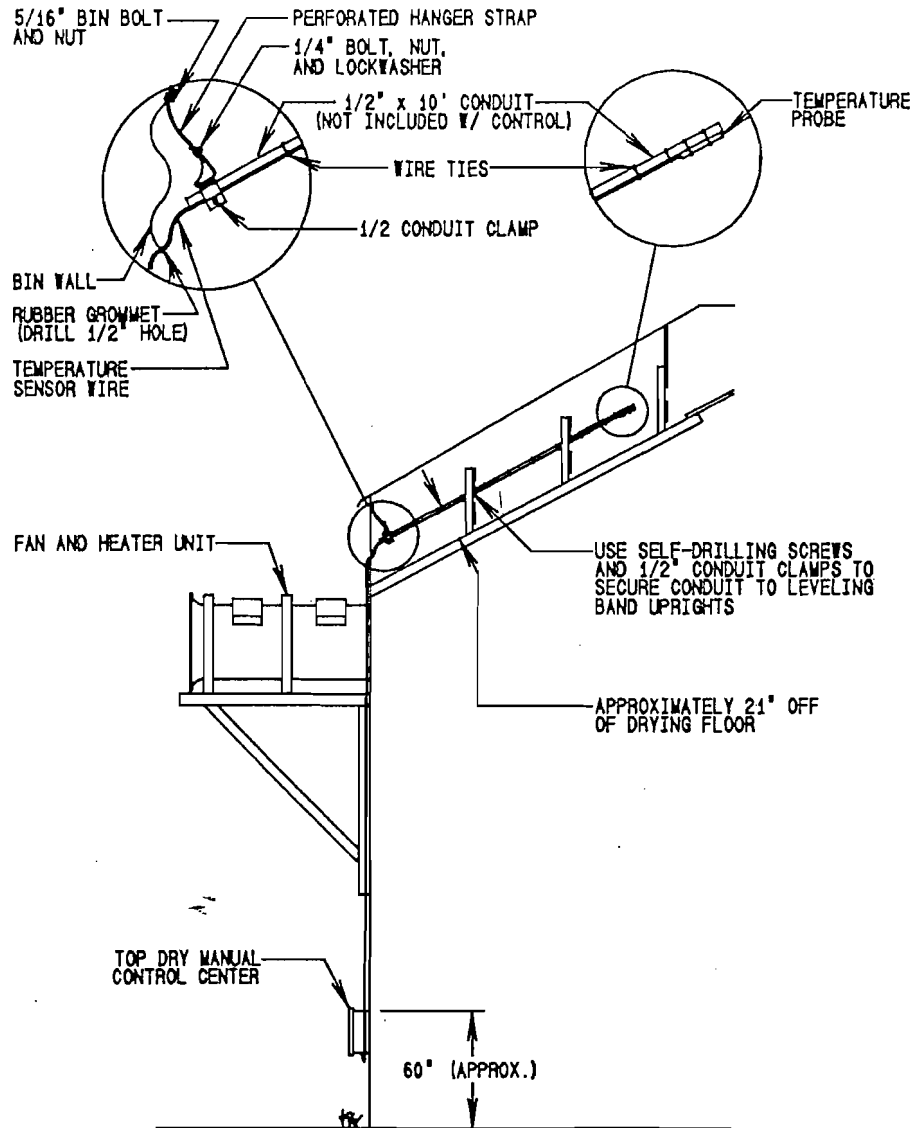

FIG. 1
1. Mount the Top Dry Manual Control Center on the side of the bin. Position the control center in a location that is approximately eye level and that allows the operator to see the fan and heater unit start. Locate and drill the appropriate holes for mounting the control center. Mount the control center with four (4) 5/16" bin bolts and nuts provided.
2. Run two (2) 16 ga. wires (either use wires in conduit or use a 2 lead power cord) from the Top Dry Manual Control Center to the drying chamber. Connect the temperature probe to the two wires (one wire per probe lead) with the connectors provided. Mount the temperature probe assembly in the drying chamber in the Top Dry bin. See Fig. 1. Connect the wires to the thermostat with the one wire going to terminal 7 on terminal strip and the other wire going to terminal 8.
2. Run two (2) 16 ga. wires (either use wires in conduit or use a 2 lead power cord) from the Top Dry Manual Control Center to the drying chamber. Connect the temperature probe to the two wires (one wire per probe lead) with the connectors provided. Mount the temperature probe assembly in the drying chamber in the Top Dry bin. See Fig. 1. Connect the wires to the thermostat with one wire going to terminal 7 on terminal strip and the other wire going to terminal 8.